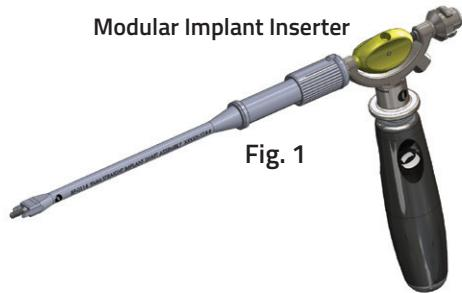

Fig. 1
There are four (4) parts to the Modular Implant Inserter: 1) the Inserter Shaft, 2) the Instrument Body, 3) the Threaded Insert, and 4) the Universal Handle. (Fig. 1)